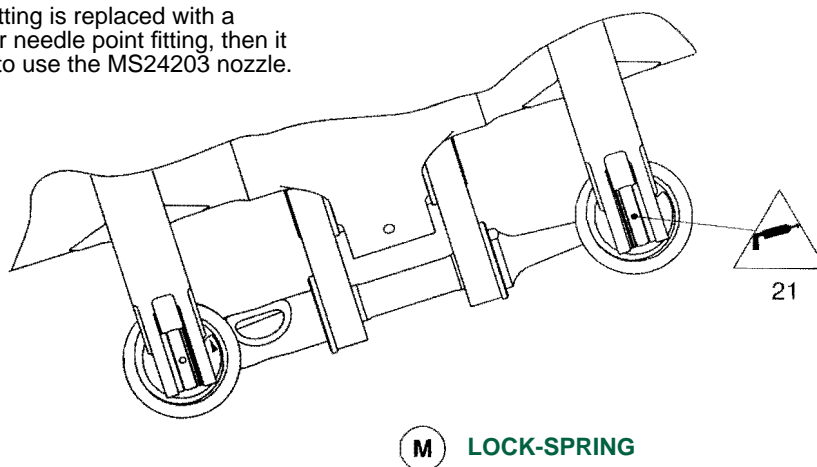

FIGURE 10 - LUBRICATION OF THE MAIN LANDING GEAR
LOCK SPRING	Figure 10
| | (L) | | | SEE FIGURE 10 |